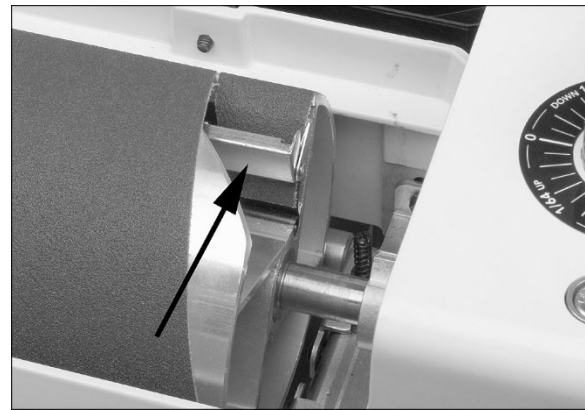

Figure 5-6
6. Press inboard take-up lever (Figure 5-6) and insert trailing end of strip as far as it will go. If necessary, trim tapered end of abrasive strip.